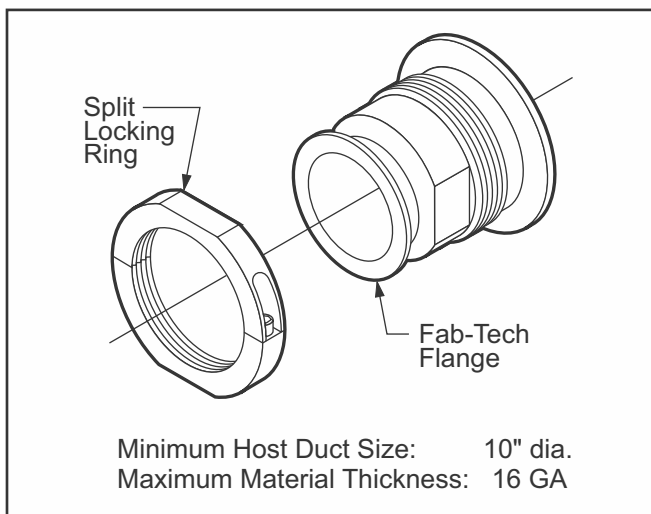

Fig. 30: Field Installed 2" Fab-Tech Flange
3. 60mm Punch: Slide the 60mm die (for 2" test port) onto the 3/4" actuator stud with the open end of the die facing away from the actuator. Insert the 3/4" actuator stud into the 3/4" hole. From inside the duct thread the matching 60mm punch onto the 3/4" actuator stud with the cutting surfaces of the punch toward the duct. Continue threading the punch by hand until the die, duct, and punch are snug. Operate the hydraulic actuator to draw the punch through the duct material. Remove the punch and die. (Fig. 30)